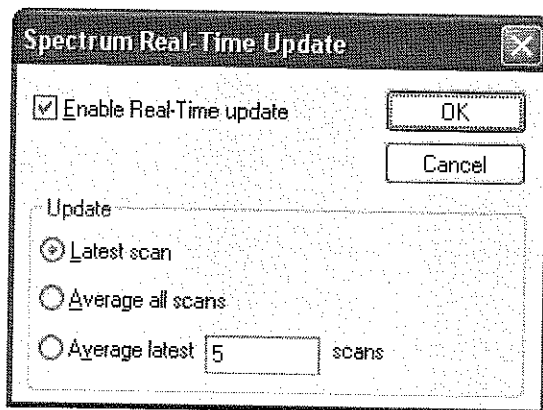

Figure 5-4 Spectrum Real-Time Update Dialog Box
2. Select **Display > Real-Time Update** to open the Spectrum Real-Time Update dialog box (Figure 5-4).